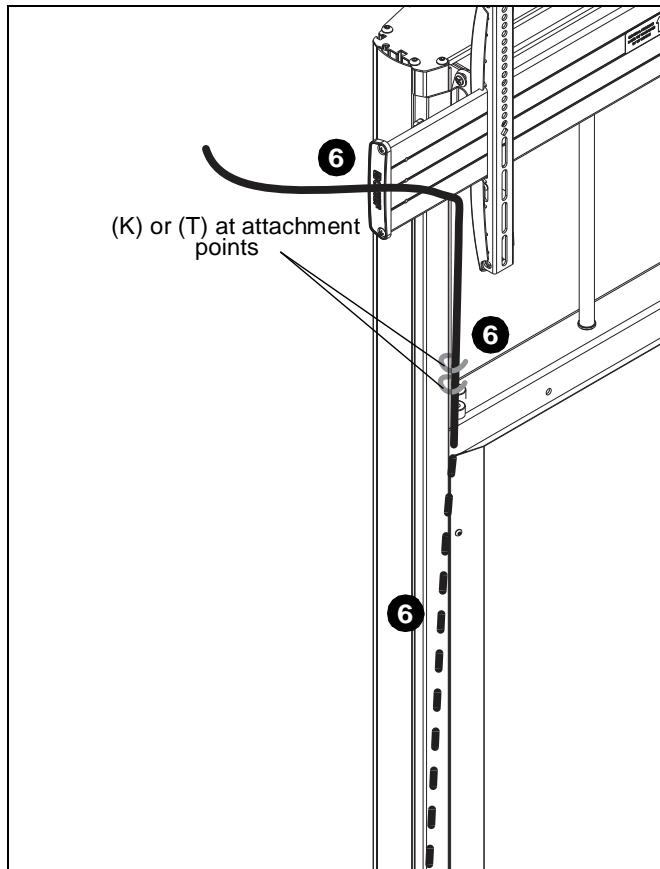

Figure 20
6. Route cables from display through inside of column assembly attaching at cable management attachment points and/or accessory bracket using cable ties (K) or cable clips (T) as desired. (See Figure 20)